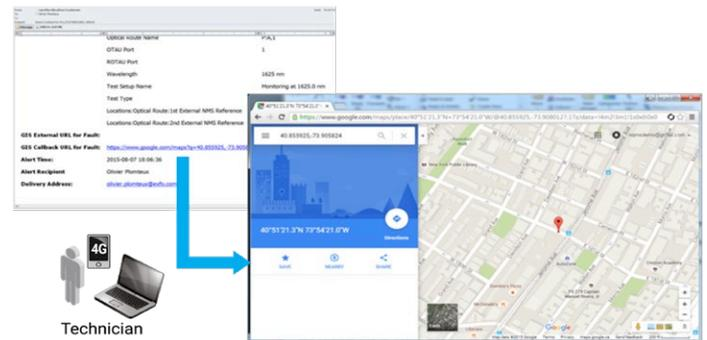

Figure 9b. Email with GPS coordinates and link to Google Maps
3. Upon fault event, respond with various inventory related information mainly georeferenced position but eventually more that can be passed on by NQMSfiber notifications to technicians concerned. The notification contains fault coordinates and a link to Google Maps (see figure 9b).